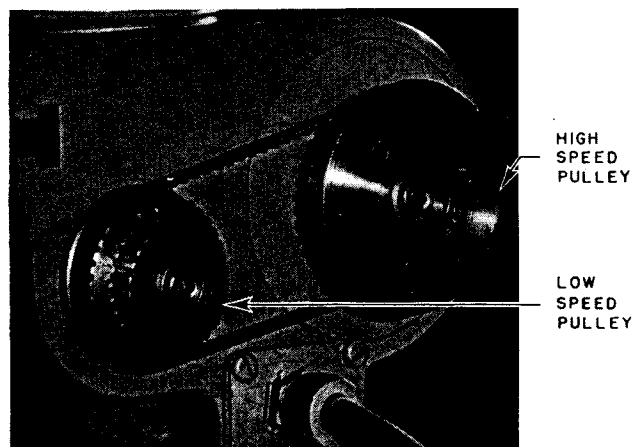

Figure 18A
**Spindle and Grinding Wheel Speeds.** The wheelhead motor, running at 3000 rpm drives the wheel spindle at 6260 and 3730 rpm. The drive is from a two step pulley on the motor shaft through a tooth-grip belt to a double step pulley on the wheel spindle (Figure 18A). This is a positive drive and no adjustment is ever required.
When using 6" diameter grinding wheels and over, shift the belt to the inside pair of the double step pulleys, and when using smaller wheels, shift it to the outside pair of double step pulleys (Figure 18A).